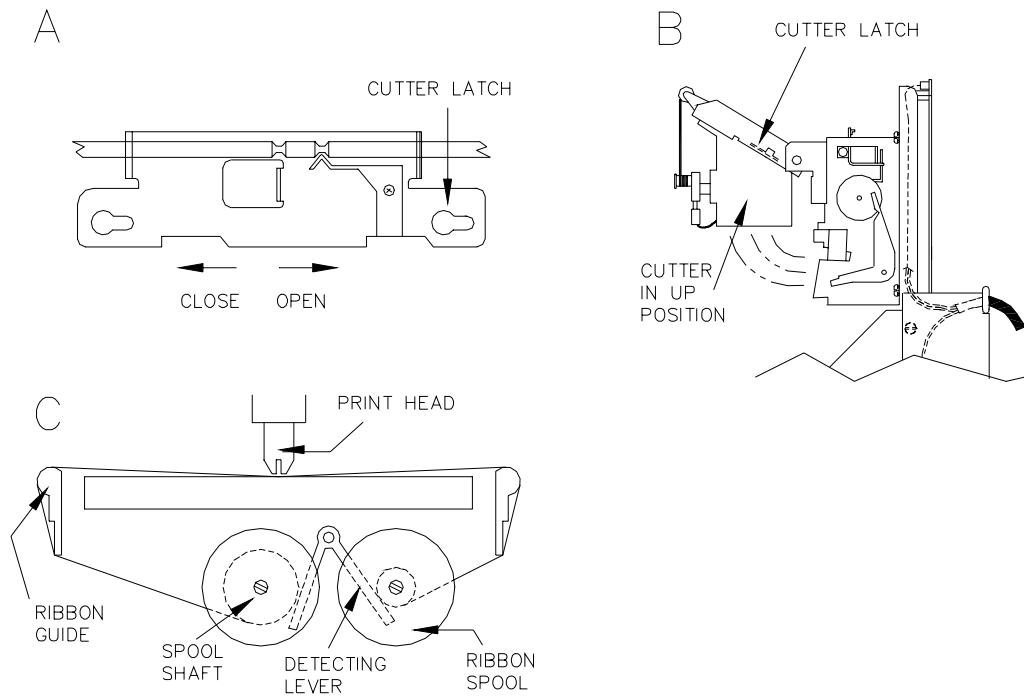

Figure 25-5. Ribbon Installation Sequence
2. Slide the cutter latch on the paper cutter unit to the right and swing the paper cutter up (Figure 25-5 A and B).
4. Pull one spool off of the shaft while pushing the ribbon detecting lever out of the way (Figure 25-5 C). Repeat for the other spool.
1. Place the ribbon spool onto the left shaft with the spool-driving pins pointing toward the printer (Figure 25-5 C).
5. Return the paper cutter unit to the normal position and slide the cutter latch to the left to lock (Figure 25-5 A).